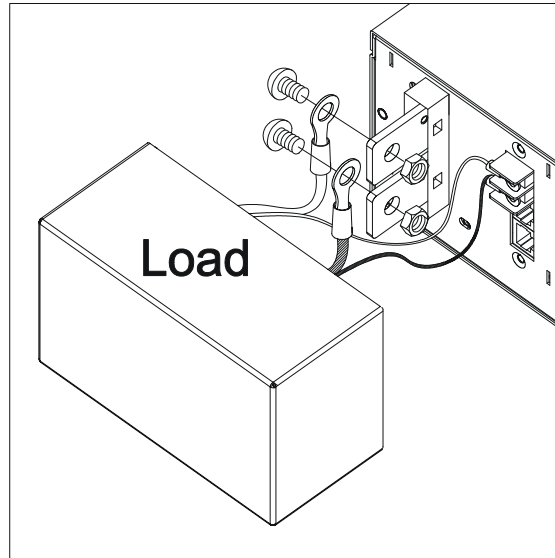

Figure 2-9
2. Figure 2-9 shows the correct connection. Use two wires to connect the positive/negative connector of load to the remote sensing connector on the rear panel. The connecting wire diameter must be larger than 30AWG and its withstand voltage should be within the specification.